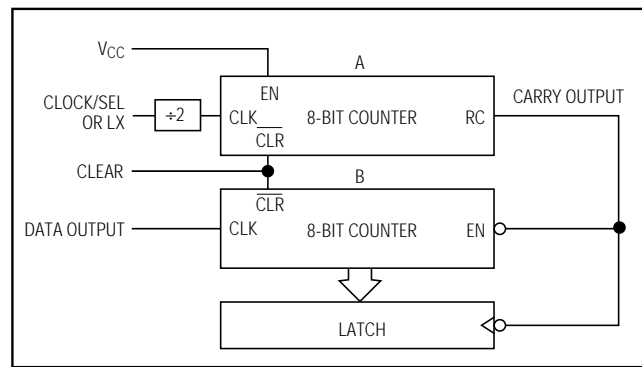

Figure 8. Discrete Hardware Solution for Counting A/D Output Data Pulses
When using two counters of the same length, as shown in Figure 8, one counter (A) just counts the A/D clock pulses ( $f_{osc}/2$ ), and the other counter (B) counts DATA output pulses. When counter A overflows (for example, after 256 clock cycles for an 8-bit counter), counter B is disabled. The controller reads the counter B output data and calculates the analog voltage present at the ADC's input.